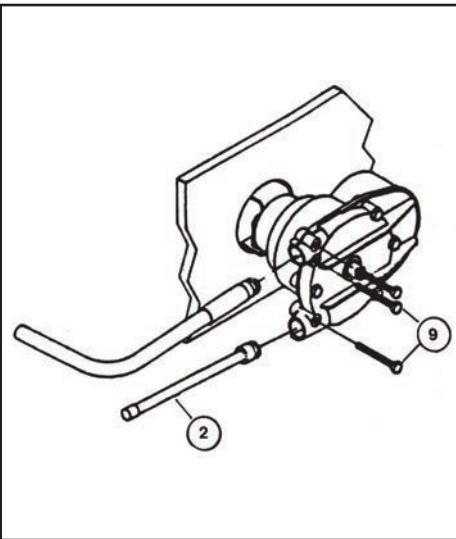

Figure 6.
**STEP 2.** Feed the cable into the UPPER helm spigot until it contacts the internal gear. Then turn steering wheel to draw the cable fully into the helm (see Figure 6). Continue turning the steering wheel until the end fitting of the cable is fully inserted into the entry spigot.
**STEP 3.** Insert two bolts (item 9) into the helm and tighten fully, making sure that the bolts are in the retaining groove of the cable fitting. See Figure 6.
**STEP 4.** Feed spent travel tube (item 2) over the exposed cable end and insert bolt (item 9) into the helm, tighten fully. See Figure 6.